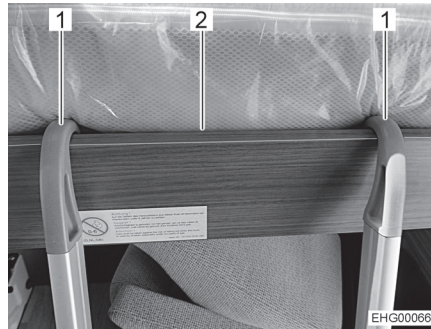

Fig. 94 Access ladder (pull-down bed)
- Hook the access ladder into the bed surround (Fig. 94,2) on the pull-down bed by the two brackets (Fig. 94,1). When engaging make sure that the hooks rest on the inner fixtures. This prevents lateral movement of the access ladder.
- Unhook the access ladder (Fig. 94,1).